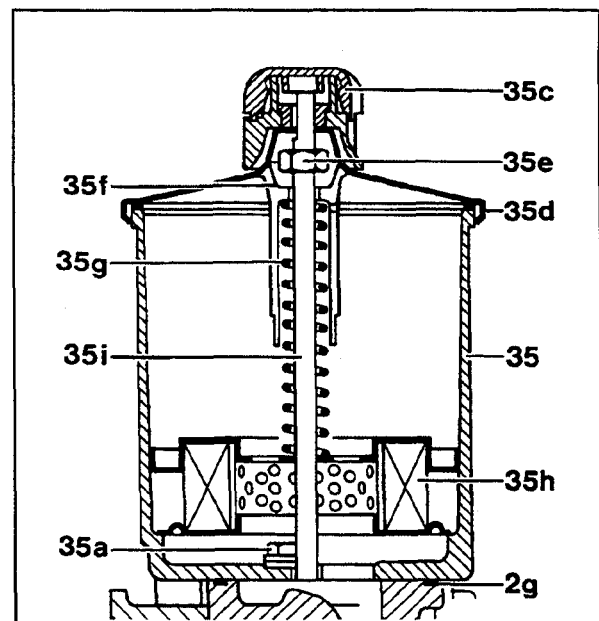

Figure 1
1. Extract power steering fluid from reservoir (35, Figure 1) using extracting hand pump - Special Tool 112 589 00 72 00.
2. Remove power steering fluid filter from inside of reservoir (35h, Figure 1).
4. Unscrew 4 bolts (35a, Figure 1) holding reservoir on its bracket from inside of the fluid reservoir and remove gasket (2g, Figure 1).
12. Replace gasket (2g, Figure 1) and reinstall power steering fluid reservoir (35, Figure 1) by bolting four 10mm bolts (35a, Figure 1). **Tightening torque: 8 Nm.**
14. Install power steering fluid filter (35h, Figure 1). Replace when applicable.